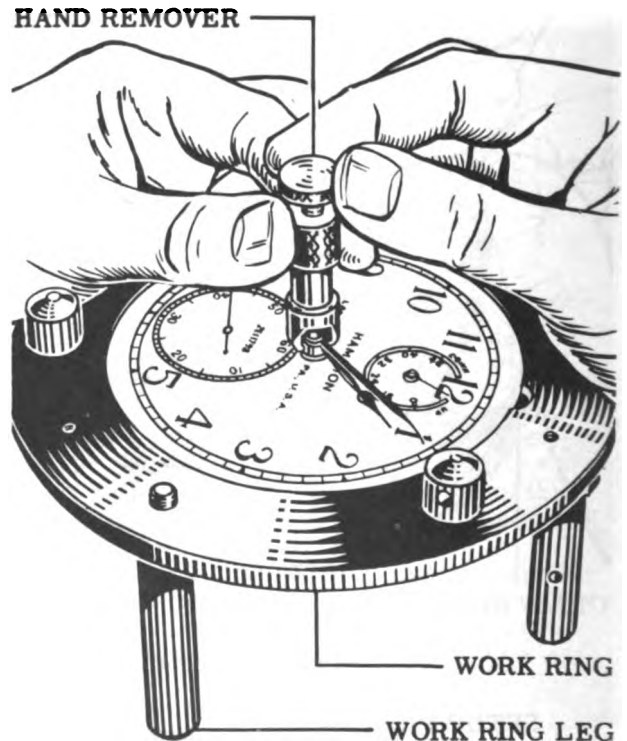

Figure 20
17. Remove hour hand and minute hand with Tools Nos. 19 and 20. See Fig. 20.